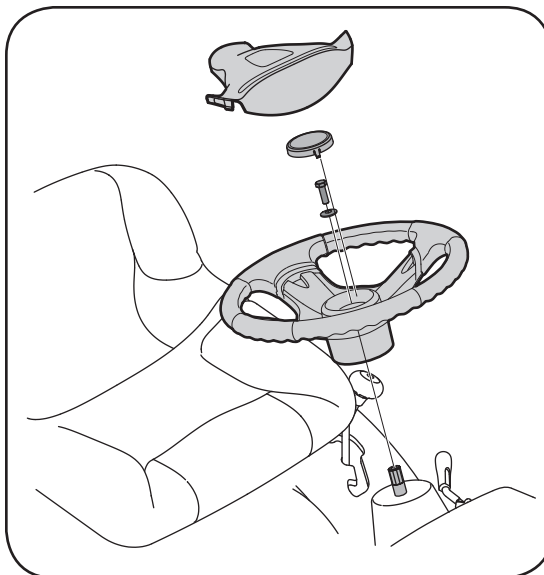

Figure 3-3
NOTE: There are two different styles of steering wheel cap. See Figure 3-3. **Styles vary by model.**
2. Place the washer (with the cupped side down) over the steering shaft and secure with the hex bolt. See Figure 3-3.